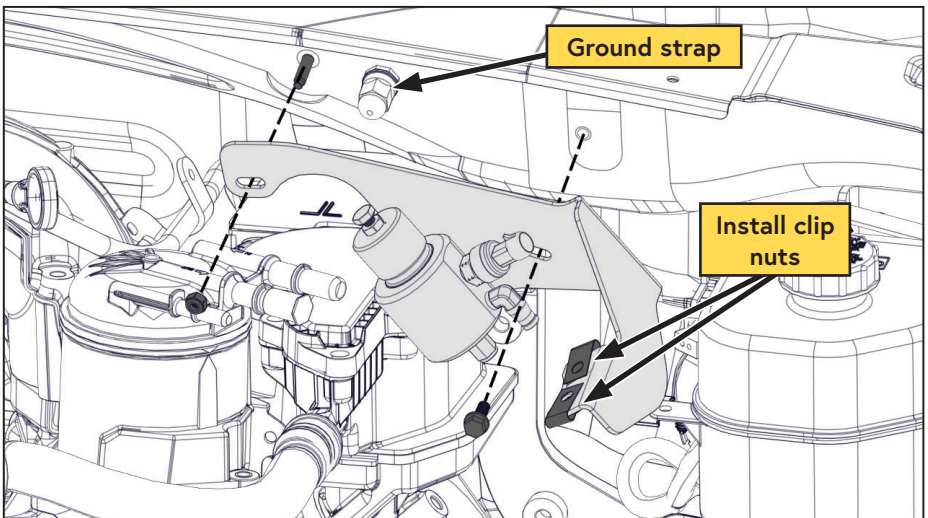

Figure 17 — Install the regulator
- ☐ Install the supplied clip nuts onto the remote regulator bracket (Figure 17).
- ☐ Locate the (x2) M6 studs on the driver side firewall near the OEM ground strap (Figure 17).
- ☐ Mount the regulator assembly and secure it using the (x2) supplied M6 lock nuts (Figure 17).